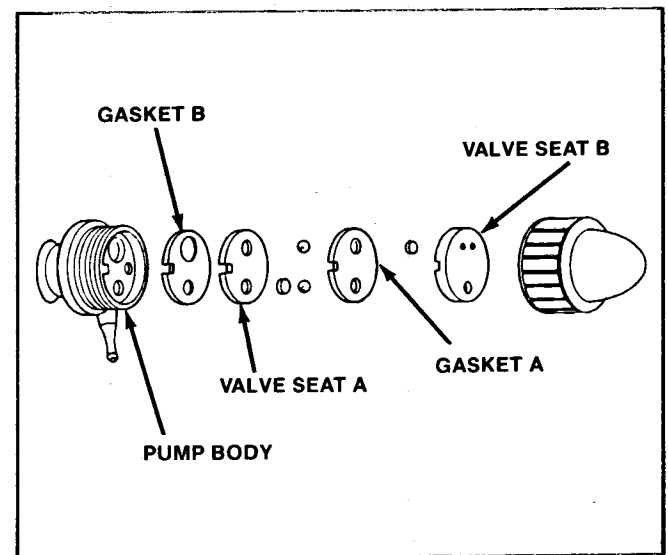

Figure 45
1. Before reassembling, familiarize yourself with the configuration of the parts to ensure they are properly installed. See Figure 45.